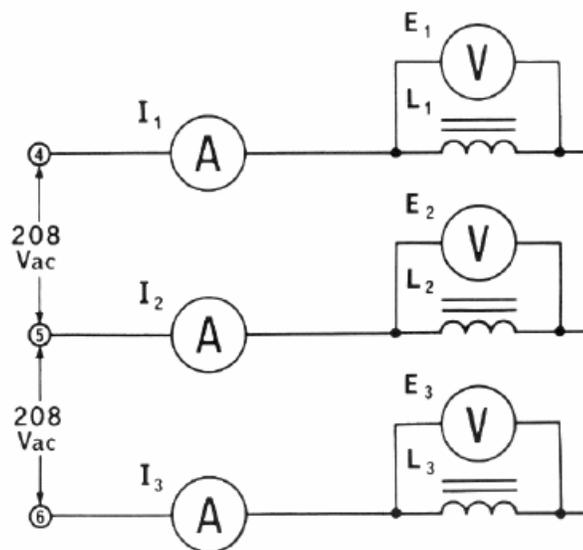

Figure 02-6
8) Construct the circuit shown in Figure 02-6: